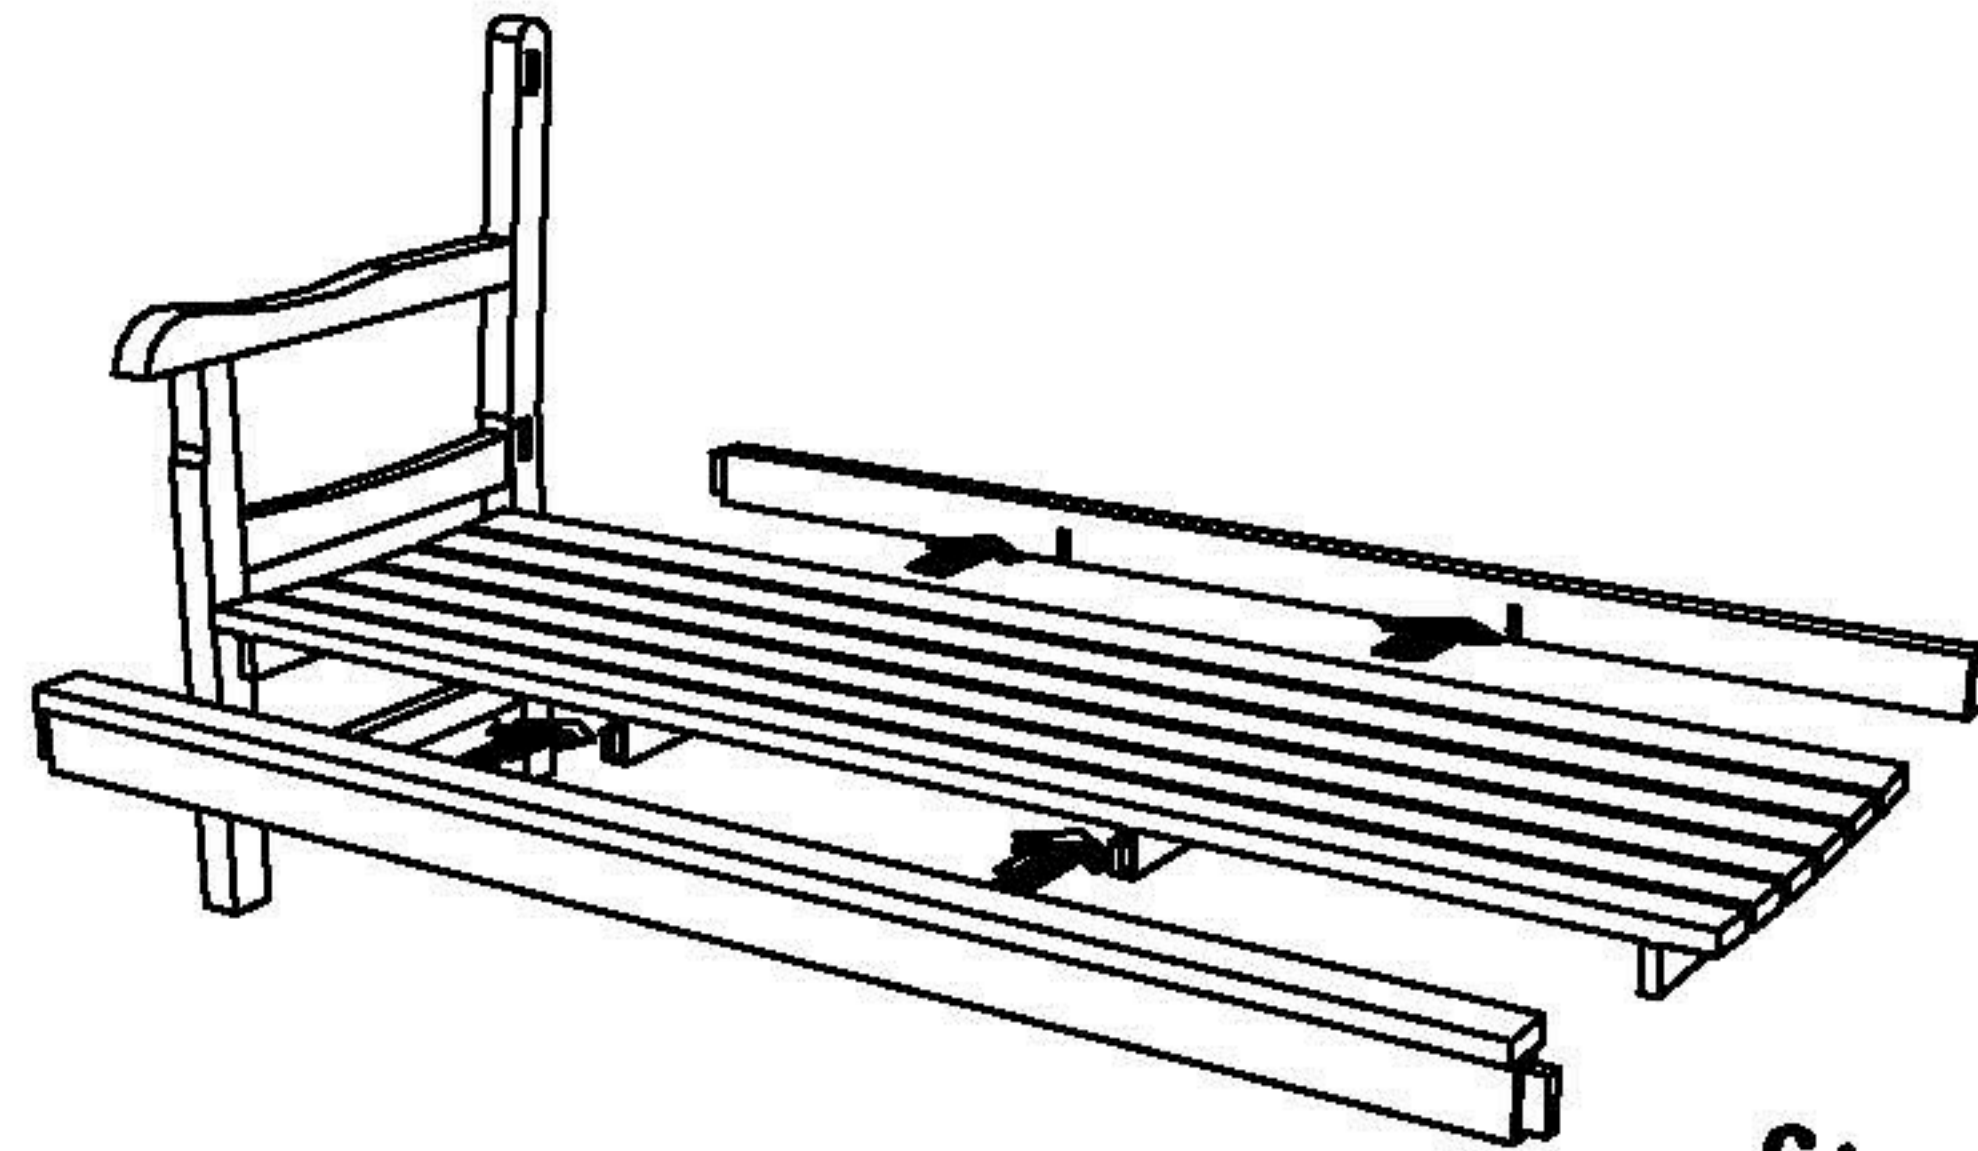

fig 2.
3. Insert the seat, front part of the seat, back support. ( Fig. 2 )